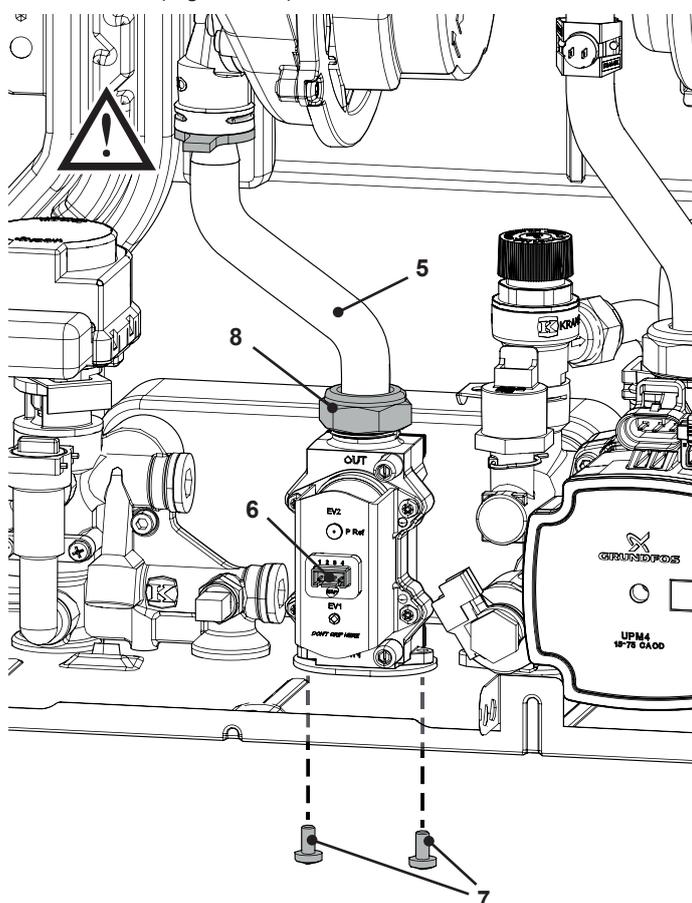

Figure 11.19
- 2 Disconnect the connector "6" (Figure 11.19), see also connector "3" (Figure 11.2).
- 4 Unscrew the connector "8" (Figure 11.19) and remove the pipe "5".
- 5 Unscrew the screws "7" and remove the valve (Figure 11.19).